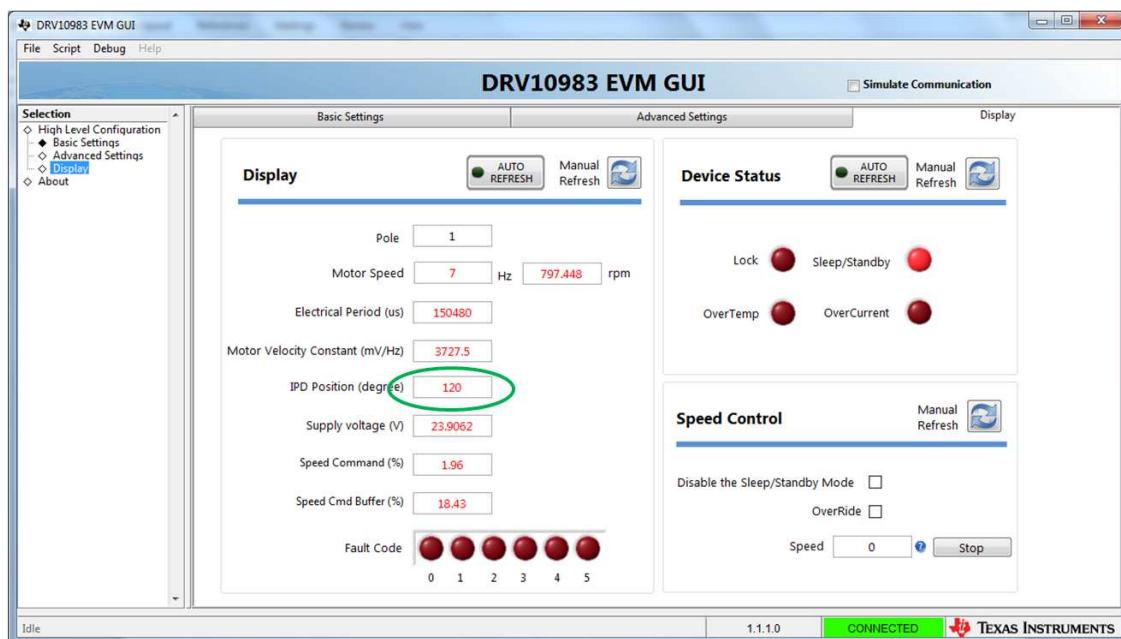

Figure 30. DRV10983x/75 EVM GUI Screenshot
7. Motor is aligned and locked again as described in 1. Motor commutation is turned ON while motor is locked. Check 'IPD position (degree)' in display tab and again it displays 60 or 120 (see Figure 30). After checking display, turn OFF motor commutation.